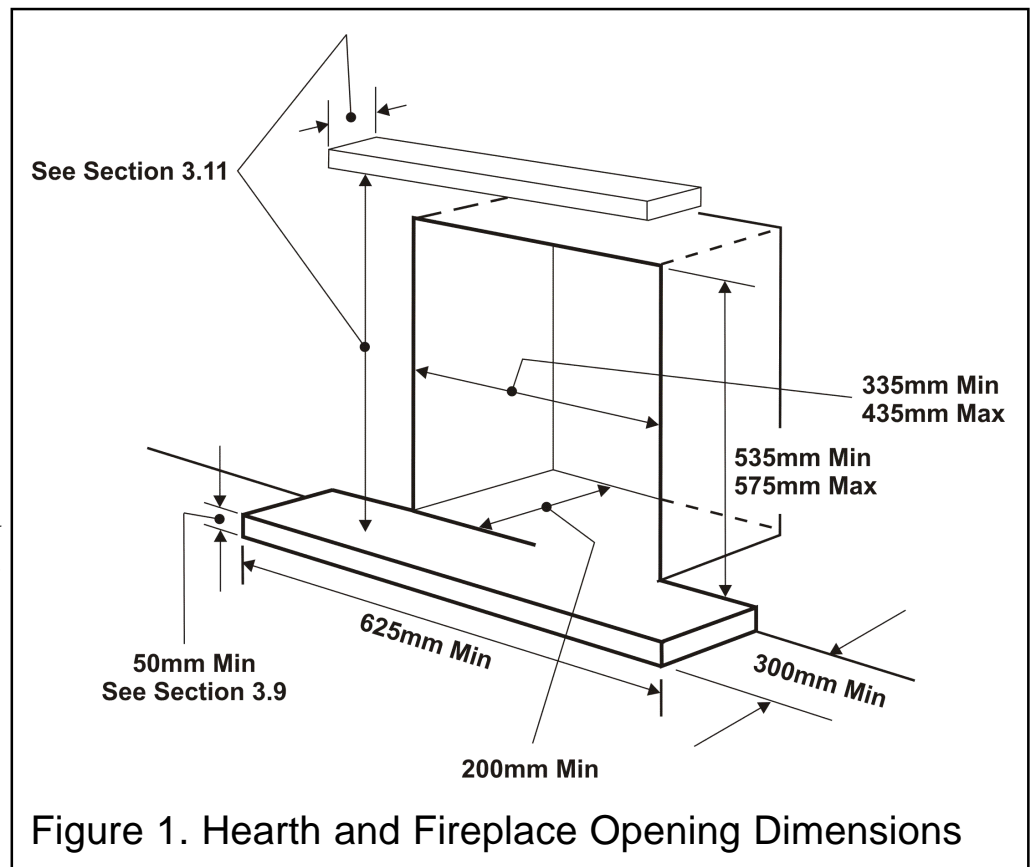

Figure 1. Hearth and Fireplace Opening Dimensions
- It is recommended that a hearth should be installed as in figure 1.
**3.2.2** To a fireplace incorporating a metal flue box conforming to BS715 with a minimum internal depth of 150mm. Incombustible mineral wool insulation of not less than 50mm thickness must be applied to the top surface of the firebox (See figure 2) and it must stand on a non-combustible hearth. See figure 1.
**3.9** The appliance must be mounted behind a non-combustible hearth (N.B. conglomerate marble hearths are considered as non-combustible). The appliance can be fitted to a purpose made proprietary class “O”-150°C surround. The hearth material must be at least 12mm thick. The periphery of the hearth (or fender) should be at least 50mm above floor level to discourage the placing of carpets or rugs over it. The appliance must not stand on combustible materials or carpets (See figure 1).